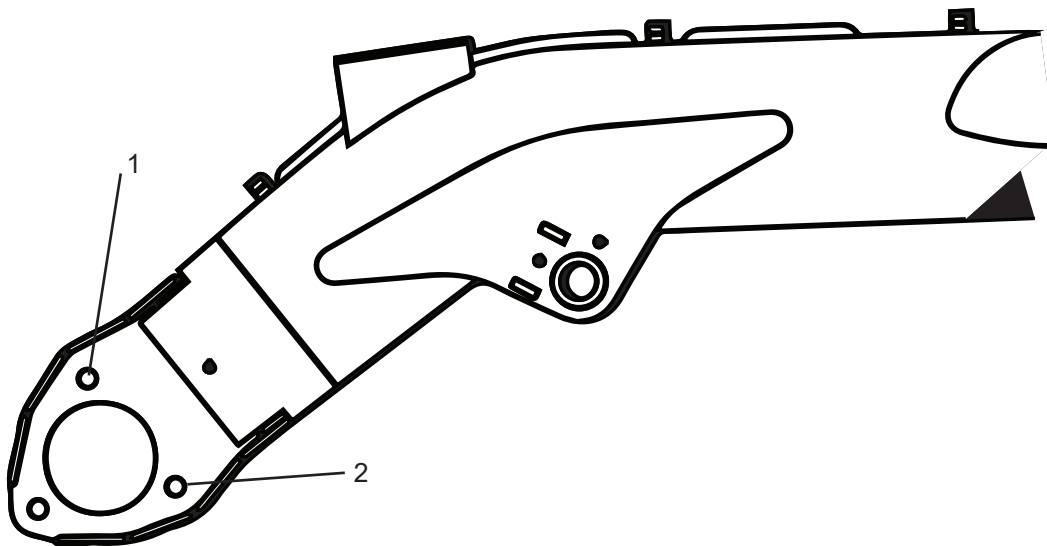

Figure 2
5. Starting on the street side arm base, use the impact wrench to remove and discard two of the three bolts and nuts (Figure 2, Items 1 and 2) from the arm base.